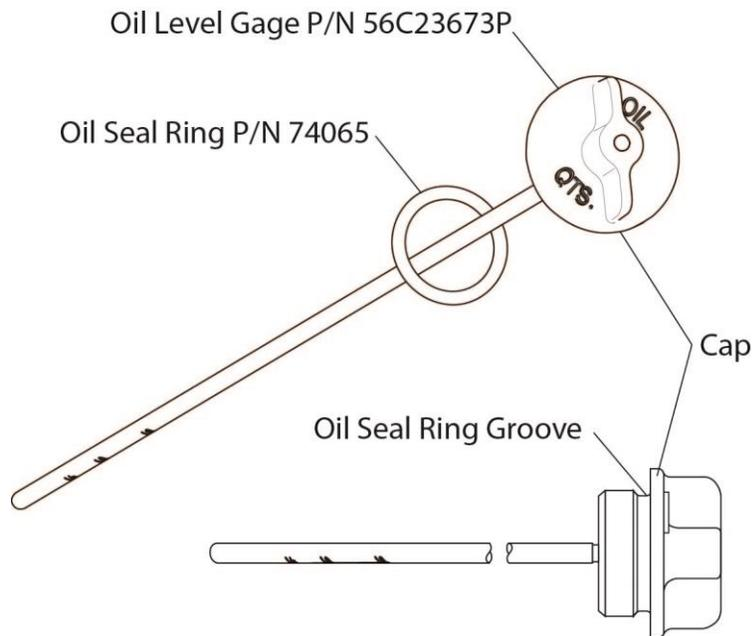

Figure 1
- B. Install the new oil seal ring P/N 74065 on the new replacement oil level gage P/N 56C23673P; make sure the oil seal ring is correctly seated in the groove under the cap. Refer to Figure 1.